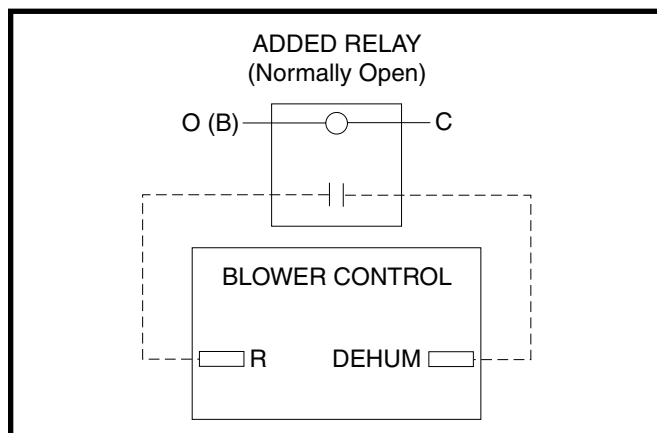

Figure 19. DHUM to Relay Wiring Configuration
- If a humidistat is not available, it is an acceptable option to connect the R & DEHUM via a field supplied normally open relay. See Figure 19, page 21. The R & DEHUM terminals should be connected across the normally open relay terminals. The O (B) & C terminals should then be connected across the relay coil. This option causes the blower to run at a reduced CFM for 10 minutes after a call for cooling.